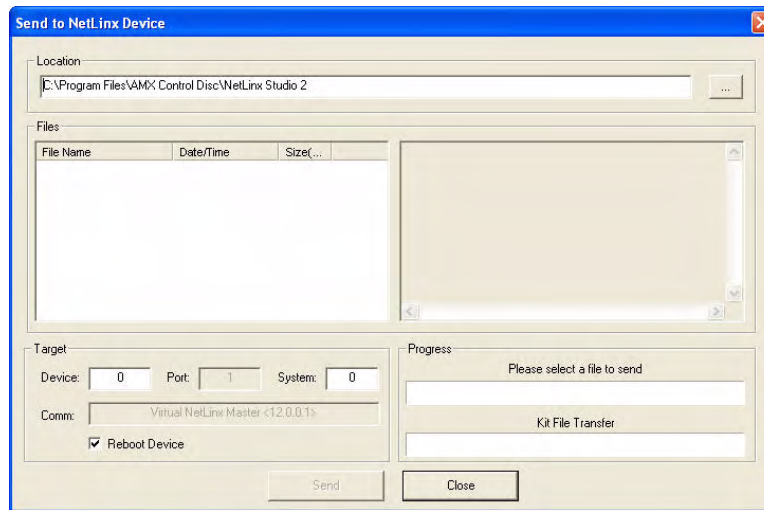

FIG. 81 Send to NetLinx Device window
- From the main menu, select **Tools > Firmware Transfers > Send To NetLinx Device...** to open the *Send to NetLinx Device* window (FIG. 81).